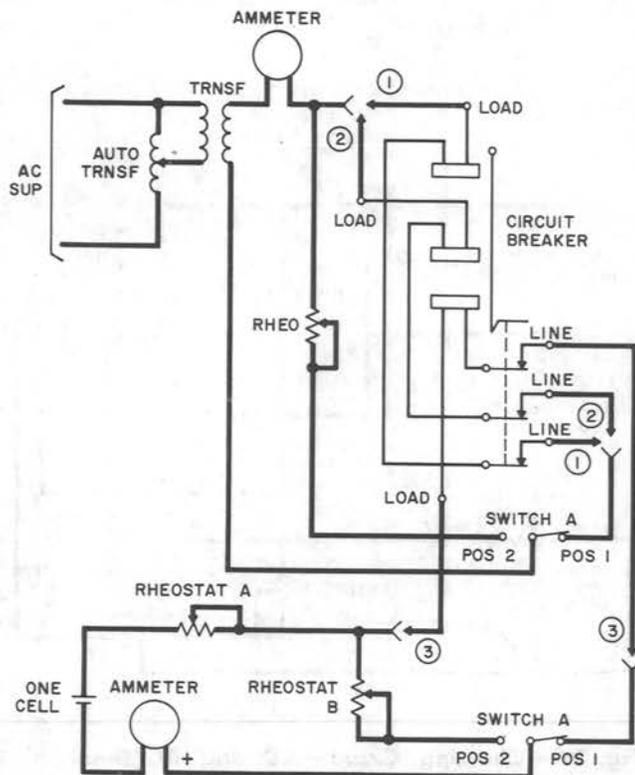

Fig. 24—Checking Circuit—AC and DC Breakers—
- (h) **KS-15794:** To check a KS-15794 circuit breaker, proceed in accordance with Methods 2 and 3 as applicable. Refer to Fig. 24. Check each pole separately as shown by options 1, 2, and 3.